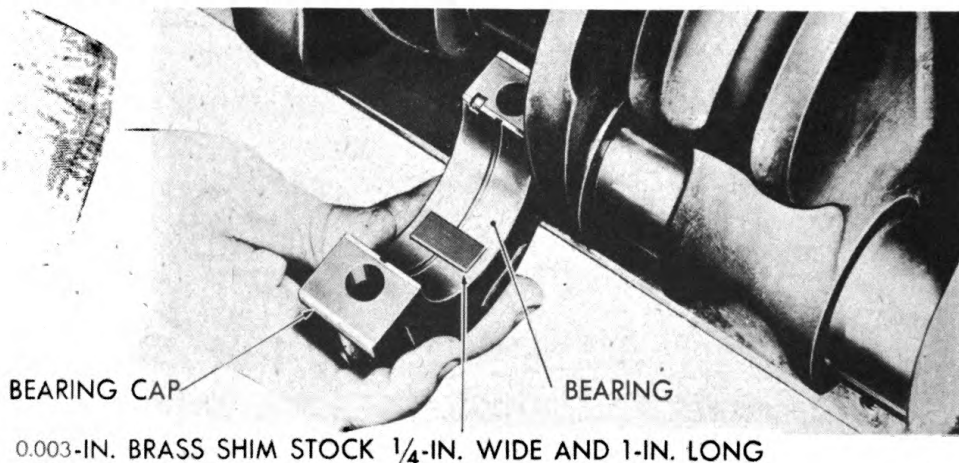

Figure 78—Checking Crankshaft Bearing Clearance
71. INSPECT BEARINGS AND CRANKSHAFT MAIN BEARING JOURNALS—Figure 78.)